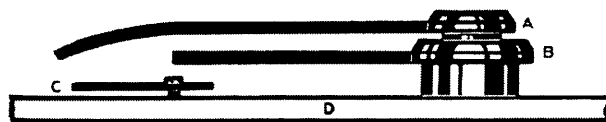

FIG. 11-21
Figure 11-21 is a drawing showing the relation of the hands to each other and to the dial. A is the minute hand, B the hour hand, C the second hand and D is the dial. Notice that the second hand (C) comes very close to the dial surface. Be certain the second hand clears the dial. Sometimes a piece of lint or broken glass wedged between the hand and the dial will cause the watch to stop.